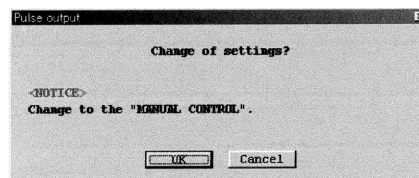

Fig.32
- ④ After filling in all the fields required, click on "OK" button. A message box as shown in Fig. 32 then appears.